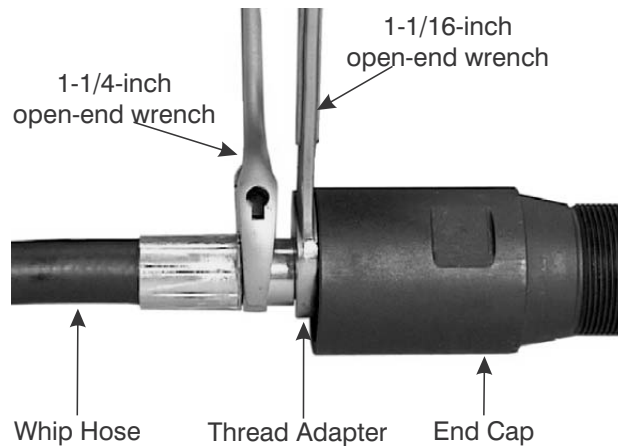

Figure 11-27. Loosen Hex Fitting and Remove Whip Hose
5. While holding the Thread Adapter in position with the 1-1/16-inch open-end wrench, fit a 1-1/4-inch open-end wrench across the flats of the Whip Hose hex fitting as shown in Figure 11-27.
7. Continue holding the Valve Stem in position. Fit the 1-1/16-inch open-end wrench across the flats of the Thread adapter, and a 1-1/4-inch open-end wrench across flats of the Whip Hose Hex Fitting as shown in Figure 11-27.
8. Tighten the Whip Hose Hex Fitting securely onto the Thread Adapter (3) as shown in Figure 11-27.